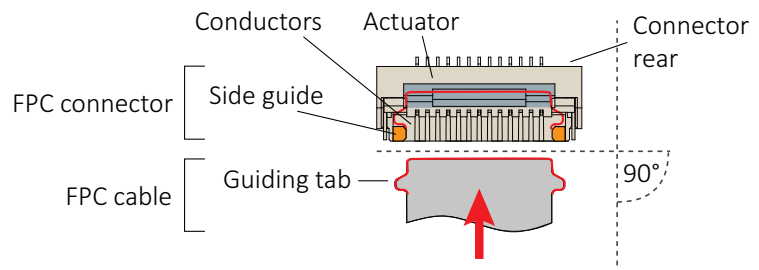
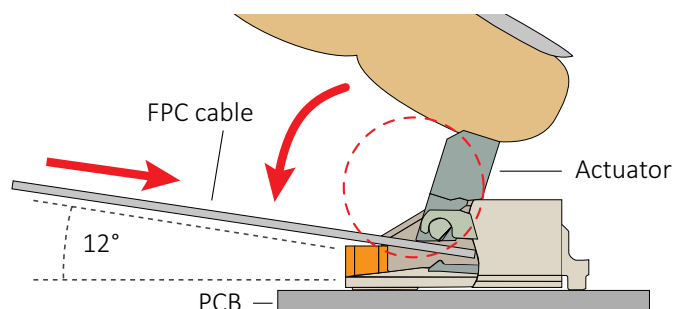

Figure 9: FPC cable and FPC connector
Figure 10: Engaging the FPC cable in the FPC connector
2. **Ensuring proper cable direction between host and camera**, take the FPC cable with conductors facing the FPC connector conductors (see Figure 9).
At a horizontal angle of  $90^\circ$  to the connector's rear (see Figure 9) and at a vertical angle of  $12^\circ$  to the PCB (see Figure 10), slowly insert the FPC cable into the actuator...
4. ...until cable guiding tabs are caught between connector rear and side guides (see Figure 9). Pull the cable slightly to ensure guiding tabs are properly engaged.
5. Holding the FPC cable in position, flap down the actuator to closed position (see Figure 10).